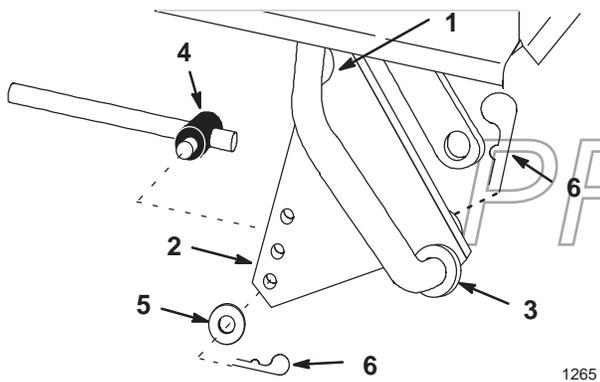

Figure 12
9. Position lift plate notch around left side lift rod and slide lift plate onto attachment lift arm (Fig. 12). Secure with hairpin cotter at lift arm.
10. Connect lift rod trunnion at one of the holes in the attachment lift plate with 5/8" washer and hairpin cotter (Fig. 12).